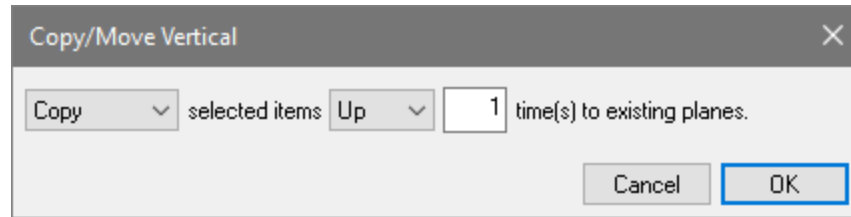

Figure 10-44
- Click on the drop-down box labeled *To* and select *Up*. This will change the *Copy/Move Vertical* window to be as shown in **FIGURE 10-44**.